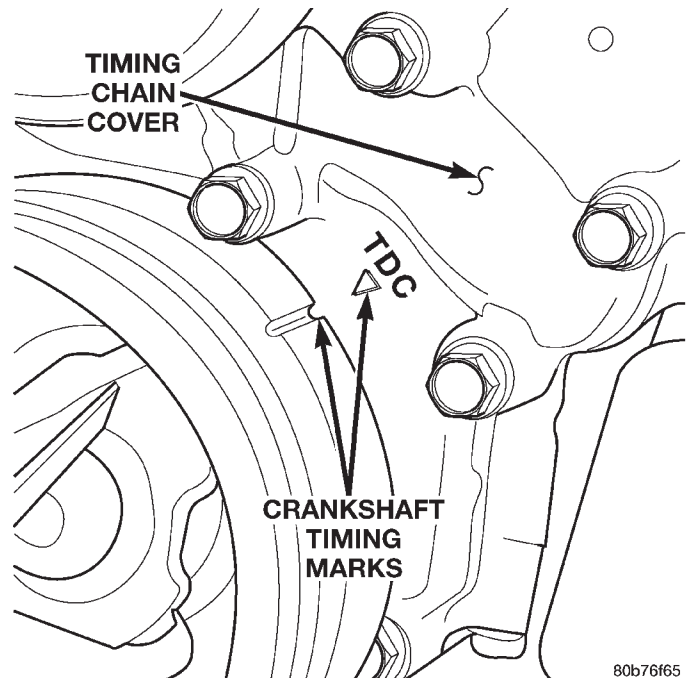
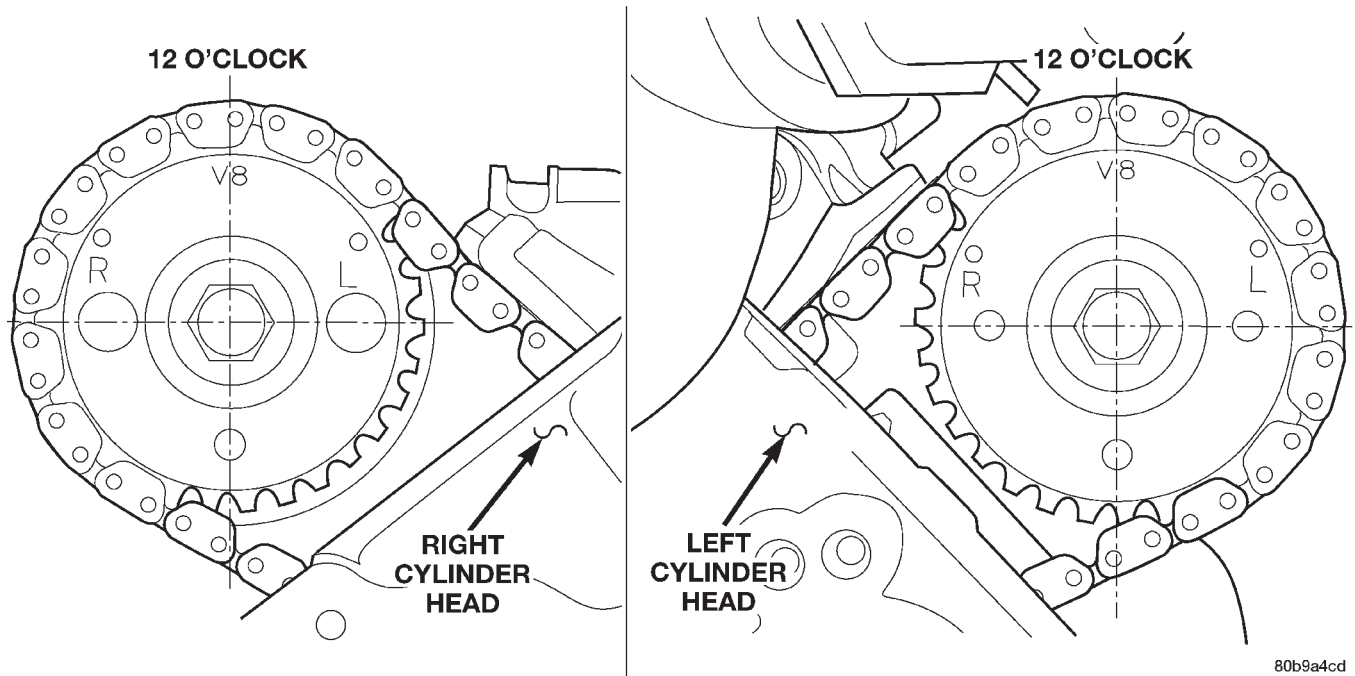
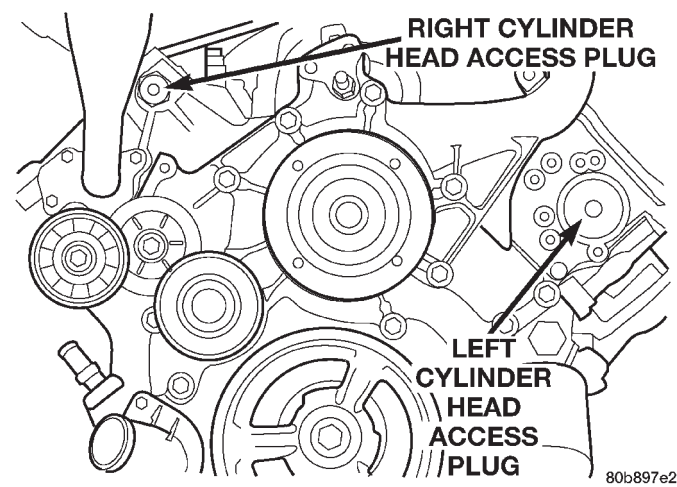
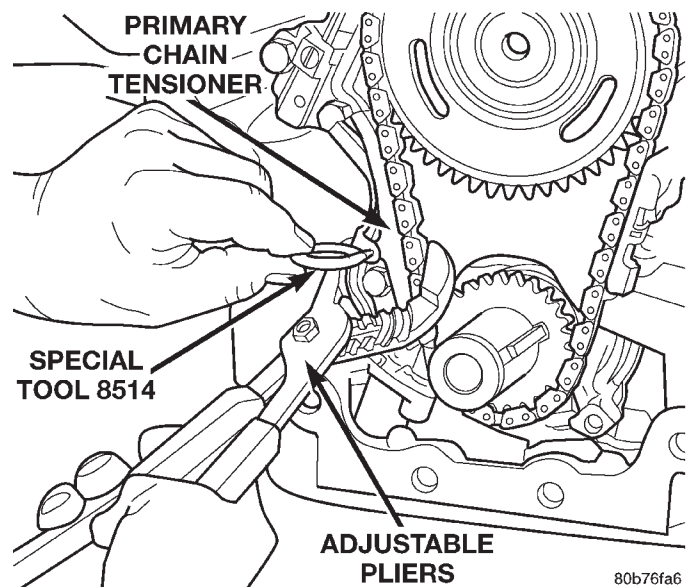

Fig. 61 Engine Top Dead Center (TDC) Indicator Mark
Fig. 62 Camshaft Sprocket V8 Marks
Fig. 63 Cylinder Head Access Plug Location
Fig. 64 Collapsing And Pinning Primary Chain Tensioner
- (1) Disconnect negative cable from battery.
- (2) Drain cooling system. Refer to Group 7, Cooling System for procedures.
- (3) Remove right and left cylinder head covers. Refer to procedure in this section.
- (4) Remove radiator fan shroud. Refer to Group 7, Cooling System for procedure.
- (5) Rotate engine until timing mark on crankshaft damper aligns with TDC mark on timing chain cover (Fig. 61) (#1 cylinder exhaust stroke) and the camshaft sprocket "V8" marks are at the 12 o'clock position (Fig. 62).
- (6) Remove power steering pump. Refer to Group 19, Steering for procedures.
- (7) Remove access plugs (2) from left and right cylinder heads for access to chain guide fasteners (Fig. 63).
- (8) Remove the oil fill housing to gain access to the right side tensioner arm fastener.
- (9) Remove crankshaft damper and timing chain cover. Refer to procedures in this section.
- (10) Collapse and pin primary chain tensioner (Fig. 64).
- (24) Coat the large threaded access plug with **Mopar® Thread Sealant with Teflon**, then install into the right cylinder head and tighten to 81 N·m (60 ft. lbs.) (Fig. 63).
- (25) Install the oil fill housing.
- (26) Install access plug in left cylinder head (Fig. 63).
- (27) Install power steering pump. Refer to Group 19, Steering for procedure.
- (28) Install radiator fan shroud. Refer to Group 7, Cooling System for procedure.
- (29) Fill cooling system. Refer to Group 7, Cooling System for coolant fill procedure.
- (30) Connect negative cable to battery.